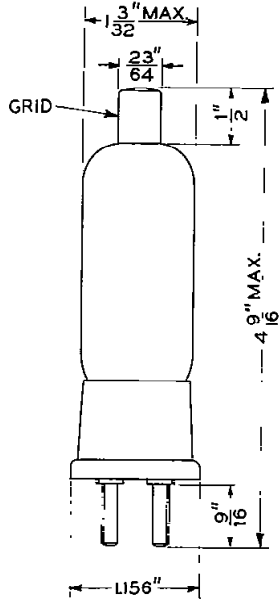

FIG. 1
**Dimensions**—Outline diagrams showing dimensions of the tube and base, and the arrangement of the electrode connections to the base terminals are given in Figures 1 and 2.